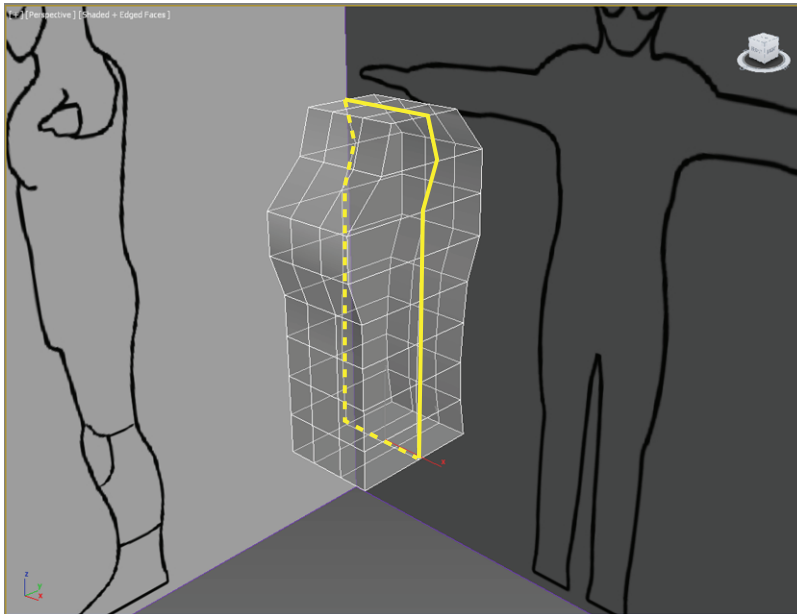

FIGURE 7.7 Create a single new edge on the side of the model using SwiftLoop.
8. Using SwiftLoop again, create a single new edge on the side of the model running from the left side to the right side, as shown in Figure 7.7.